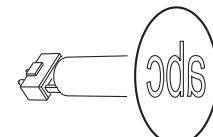
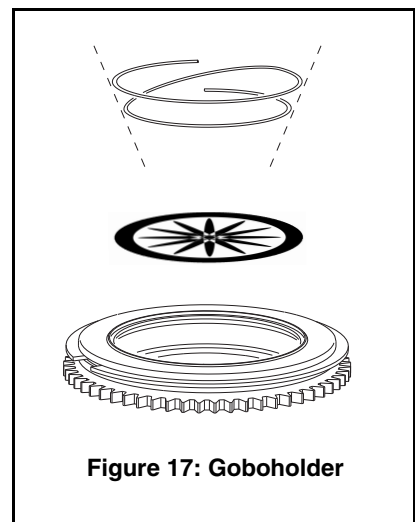

Figure 13. Correct gobo orientation
Figure 17: Goboholder
The orientations shown in Figure 13 are correct in most cases, but consult your Martin® dealer or gobo supplier if you are in any doubt about the orientation of a specific gobo type.
Correct gobo orientation is critical. Read the guidelines in Figure 13 carefully before installing a gobo.
8. See Figure 17. With a small screwdriver or similar, unhook the end of the gobo spring furthest from the gobo and pull out the spring. Drop the gobo out of the holder onto a clean, soft surface.
9. Insert the new gobo in the holder with that must face towards the lamp – the more reflective side – facing upwards towards the spring (see Figure 17 and Figure 13).
11. Insert the spring with the narrow end against the gobo, as shown in Figure 17. To identify the narrow end, press the spring flat: the narrow end is on the inside. Push the wide end of the spring in under the lip of the holder.